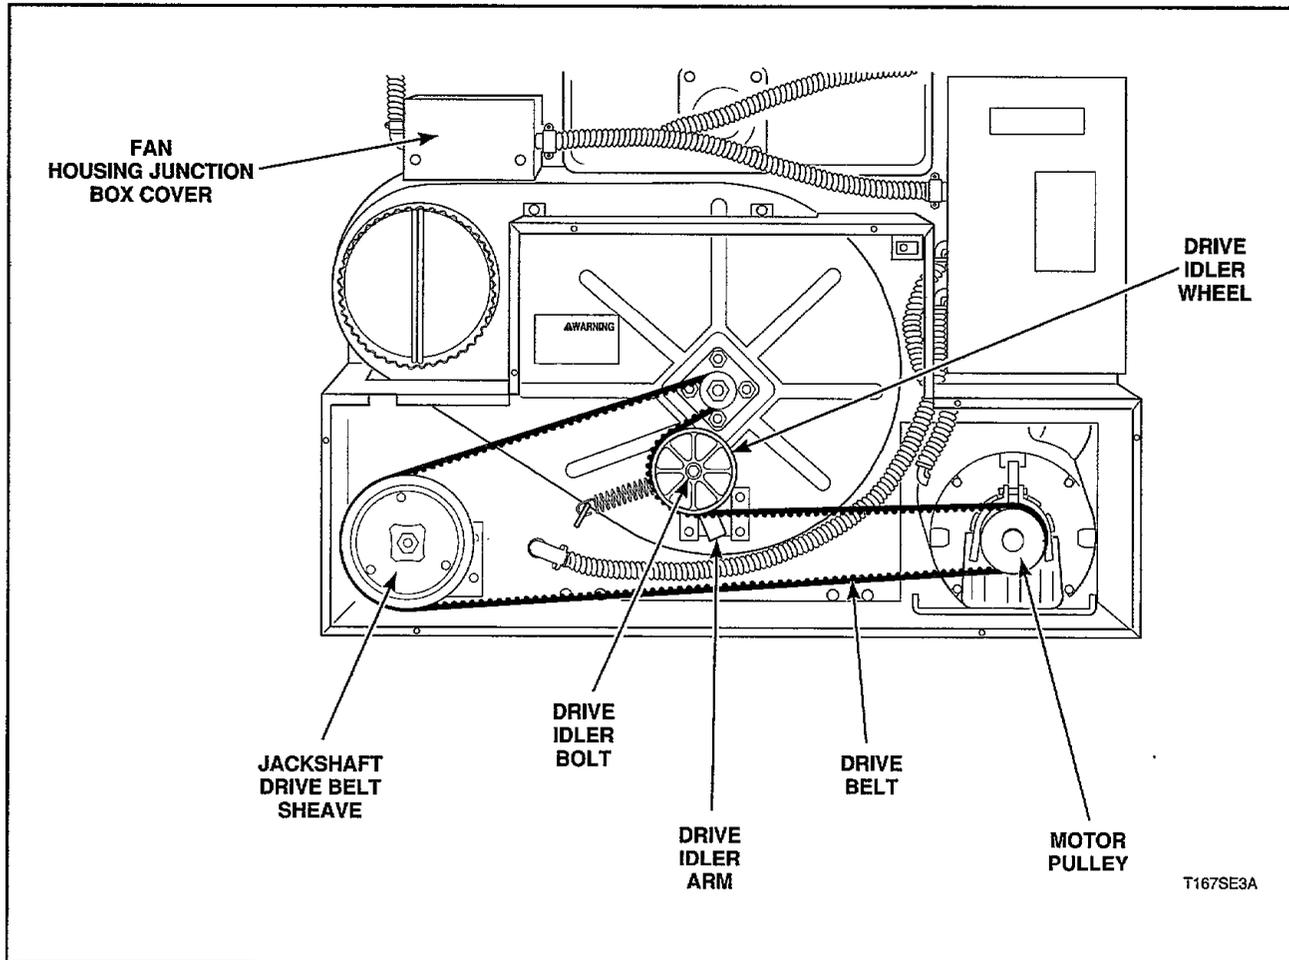

Figure 26
c. Run belt off sheaves, pulley, and idler, *Figure 26*.
NOTE: The drive belt tension is automatically set by a spring loaded idler system. There is no adjustment. Refer to *Figure 26* for proper belt routing.
31. DRIVE IDLER WHEEL (Figure 26)